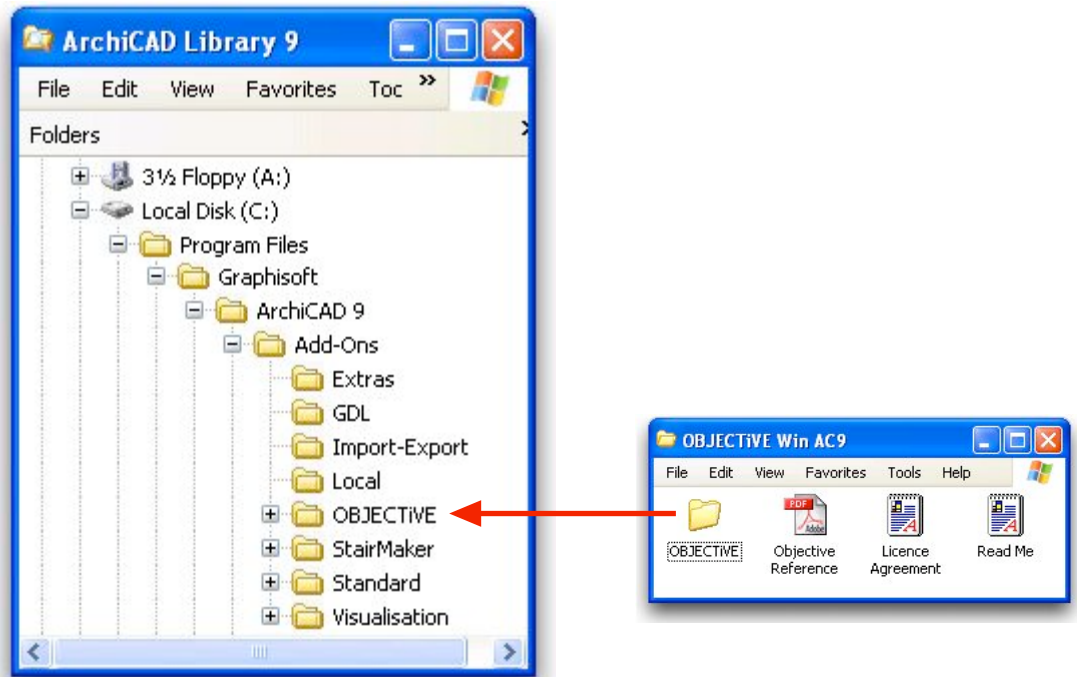

Figure 2.35
2. Drag the folder called "OBJECTiVE" into the "Add-Ons" folder in the ArchiCAD application folder (Fig. 2.35). Copy the entire folder as shown because it contains more files than the add-on alone.